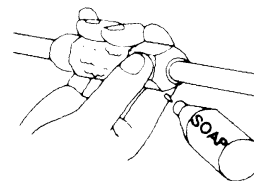

Fig. 35
- f) Leak test the joints with liquid soap. If no leakage, wipe off the soap. Fig. 35